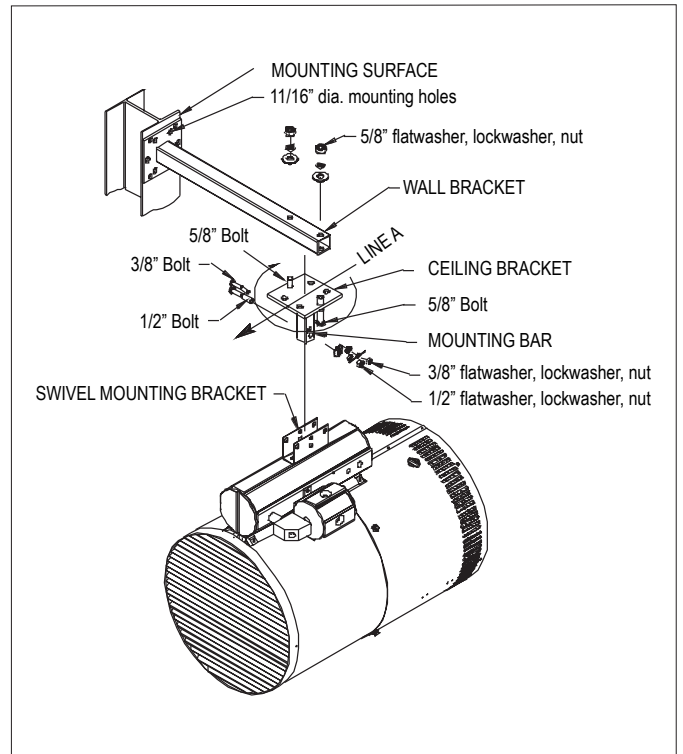

Figure 5 – Wall Mounting
- 2.1 Install the ceiling bracket to the wall bracket with the desired orientation. Ensure that "LINE A" (Figure 5, page 6), a line drawn perpendicular to the bolt holes in the mounting bar, is pointed in the desired direction of air flow. Secure the wall bracket to the mounting surface. The wall bracket must be secured to the mounting surface using as many as six (but not less than four) 5/8" fasteners (not provided). Make certain that lockwashers are used under all nuts or lag bolts.
- 3.1 Install the ceiling bracket to the wall bracket with the desired orientation. Ensure that "LINE A" (Figure 5), a line drawn perpendicular to the bolt holes in the mounting bar, is pointed in the desired direction of air flow. Secure the wall bracket to the post using the 1/2" U-bolts, nuts and washers supplied. Make certain the lockwashers are used under all nuts or lag bolts.